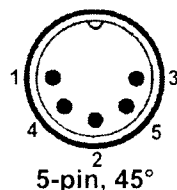

Figure 2
7. **Pedal test:** Disconnect the 5-pin socket N°4 from the power unit. See Appendix 1, page 2-4. Measure the resistance between terminals 1 and 4 (see figure 2) with an ohmmeter.